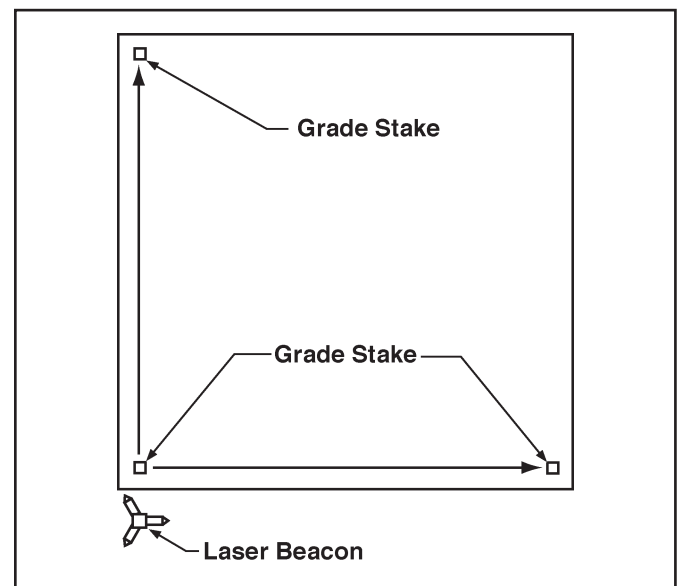

Figure 26. Method Two: Align Rotating Laser with Grade Stakes
2. Place the Rotating Laser a few feet (meters) behind the first grade stake and in line with one of the far grade stakes (it is not critical to align the Rotating Laser exactly). (Refer to Figure 26.)